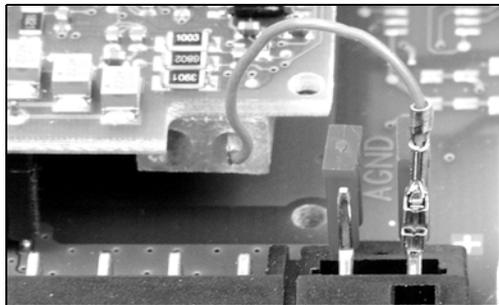

fig. 22: Cable (red) for connection of pH / Redox glass electrodes.
2. On the left side (housing cover) pull off both ends of the red cable to the pH input (s. fig. 22).